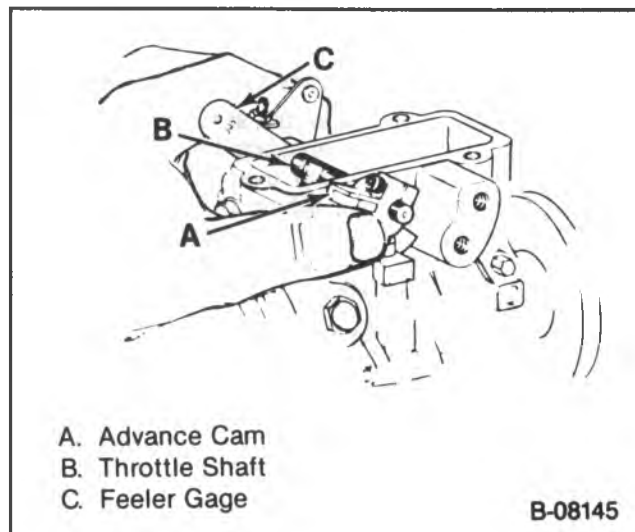

Figure 21 — Setting Advance Cam to Housing Clearance
6. A 0.005-inch feeler gage between the white washer on the throttle shaft and the pump housing (figure 21).